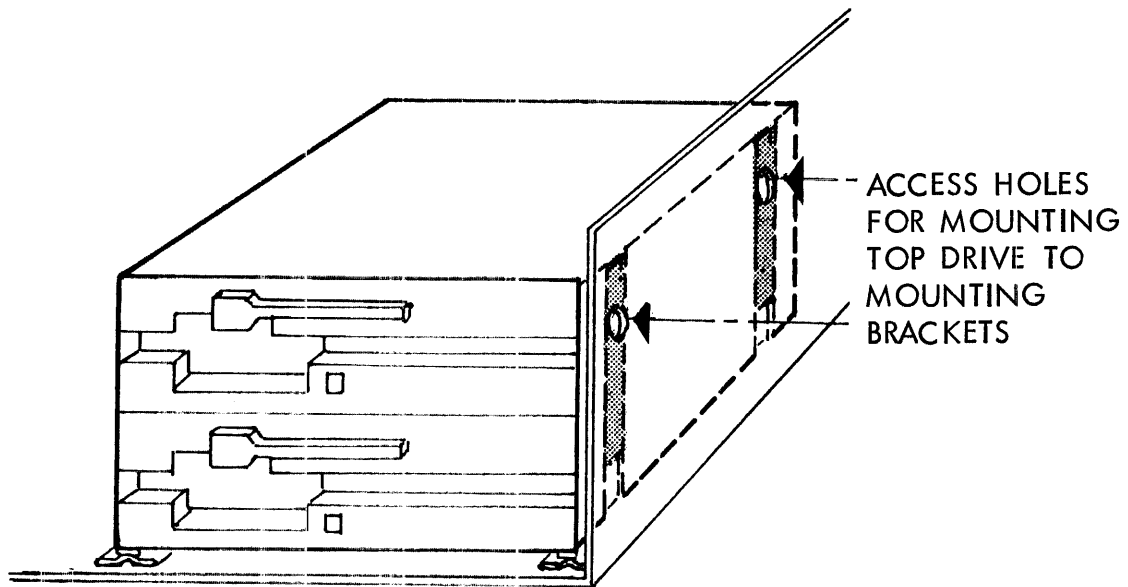

FIGURE 5: INSTALLING SECOND FLOPPY DRIVE
3. Using Figure 5 as a guide, place the second floppy drive over the installed drive. Using #6-32 flathead screws, secure the top drive to the side mounting brackets via the side access holes.